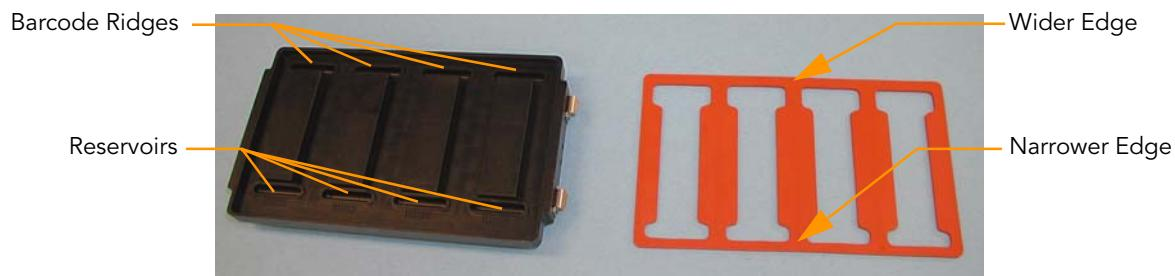

Figure 30 Hyb Chamber and Gasket
- a. Match the wider edge of the Hyb Chamber gasket to the barcode-ridge side of the Hyb Chamber (Figure 30).